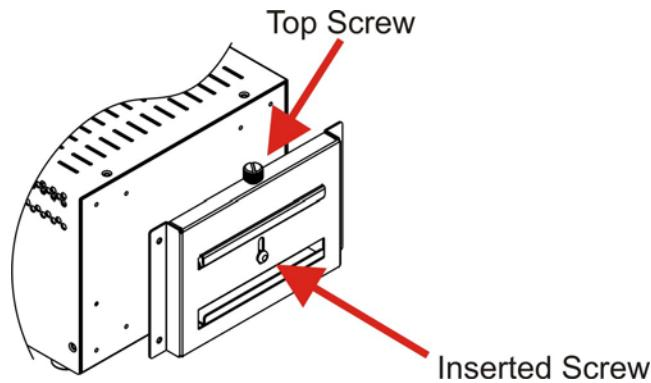

Figure 4-10: Screw Locations
Step 4: Make sure the inserted screw in the center of the bracket is at the lowest position of the elongated hole (**Figure 4-10**).